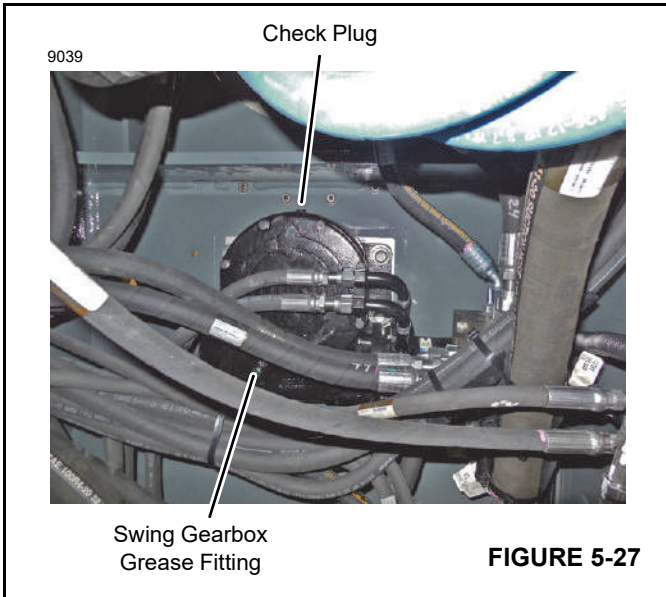

FIGURE 5-27
2. Clean the grease fitting and check plug (Figure 5-27).